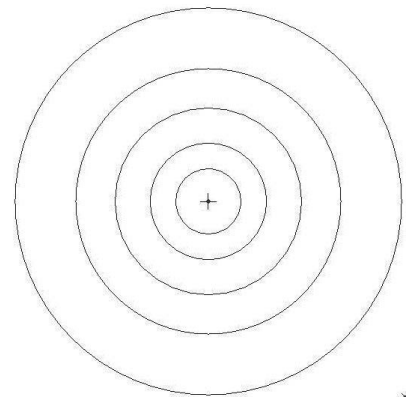

Figure 3-33 Concentric Circles
Step 28: Use  to draw four concentric circles. Note that you must first select the desired circle, then create the new concentric circles. See Figure 3-33.